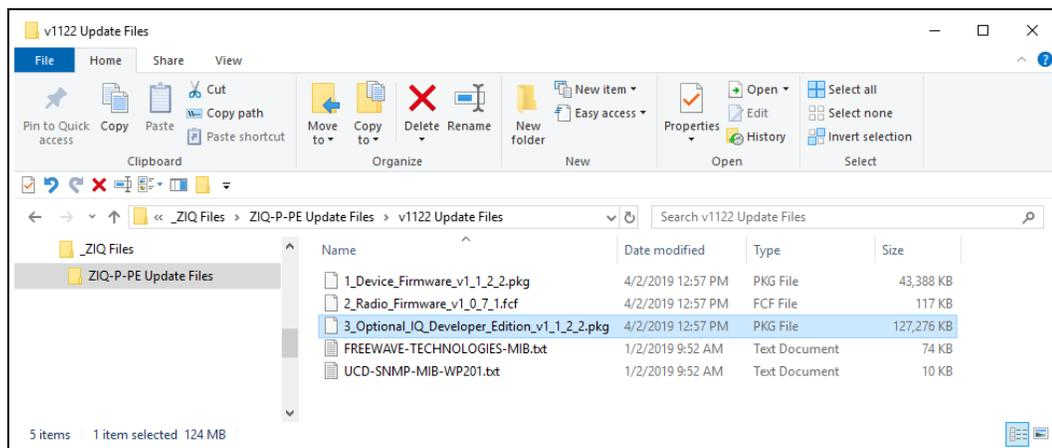

Figure 77: Selected 3_Optional_IQ_Developer_Edition_v1_1_2_2.pkg File
3. Locate and select the downloaded **3_Optional_IQ_Developer_Edition_v1_1_2_2.pkg** upgrade file. Figure 77